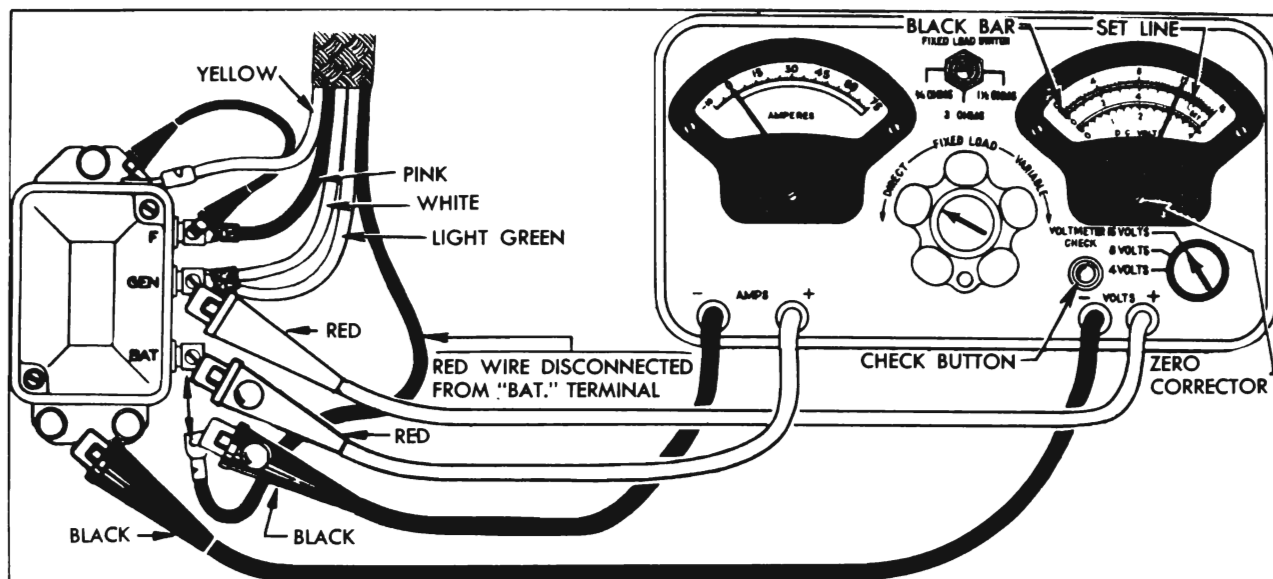

Figure 10-13—Voltmeter Calibrations and Cutout Relay Test Connections—Sun Tester
- (b) While looking squarely at voltmeter dial, press the "VOLTMETER CHECK" button and note whether the voltmeter needle aligns with the "SET" line. See figure 10-13. With check button depressed, the voltmeter is disconnected from any external circuit and is connected across an extremely accurate internal test cell which checks its calibration within the range required for testing the voltage regulator.
- (c) If voltmeter needle does not exactly align with the "SET" line, hold "VOLTMETER CHECK" button depressed and adjust the Zero Corrector to bring voltmeter needle into exact alignment with "SET" line. See figure 10-13.
3. Depress the release button on the Control Knob of Volts Ampere Tester and rotate knob counterclockwise to the stop in "DIRECT" position. Turn voltmeter Selector Switch to the "16 VOLT" position. See figure 10-13.
nected wire, and connect the red (+) test clip to the regulator "BAT" terminal. See figure 10-13.
5. Connect the red (+) voltmeter test clip to the "GEN" terminal of regulator and connect the black (-) voltmeter test clip to ground on base plate of regulator. See figure 10-13.